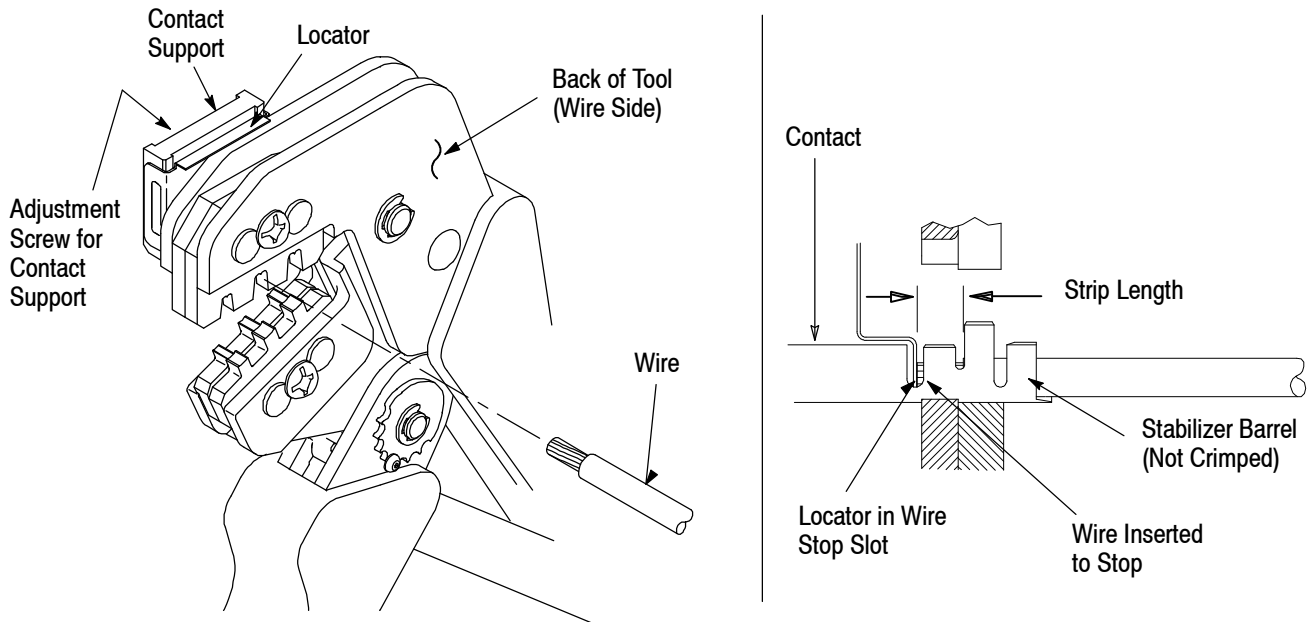

Figure 3
4. CONTACT SUPPORT ADJUSTMENT (Figure 3)
Refer to the table in Figure 1 and select wire of the specified size and insulation diameter. Strip the wire to the length indicated in Figure 1, taking care not to nick or cut wire strands. Select an applicable contact and identify the appropriate crimp section according to the wire size markings on the tool. Refer to Figure 3 and proceed as follows:
3. Position the contact so that the mating end of the contact is on the locator side of the tool, and so that the open “U” of the wire and insulation barrels must face the top of the tool. Place the contact up into the nest so that the movable locator drops into the slot in the contact. Refer to Figure 3. Butt the front end of the wire barrel against the movable locator.
5. Insert stripped wire into contact insulation and wire barrels until it is butted against the wire stop, as shown in Figure 3.
NOTE The crimped contact may stick in the crimping area, but the contact can be easily removed by pushing downward on the top of the locator (see Figure 3).
- Added product stabilizer barrel to Figure 3